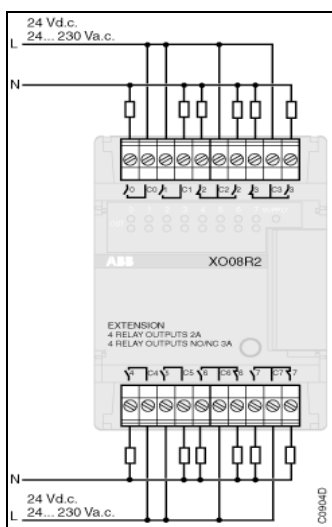

Figure 4-24 : Extension XO 08 R2
3.7. Extension XO 08 R2 (see Figure 4-24)